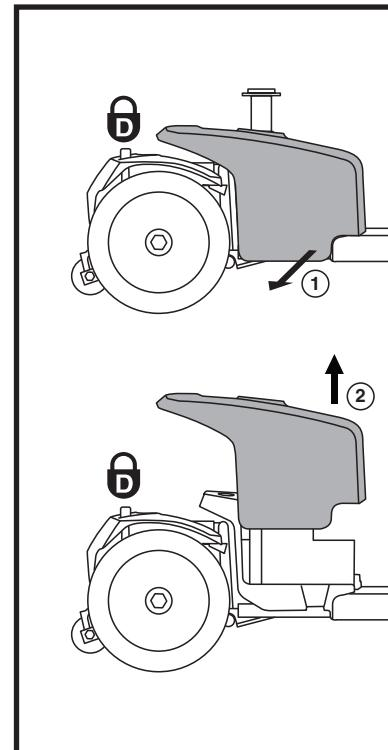

Figure 9. Battery Shroud Removal/Installation
1. Remove the seat and battery shroud. See **figure 9**.